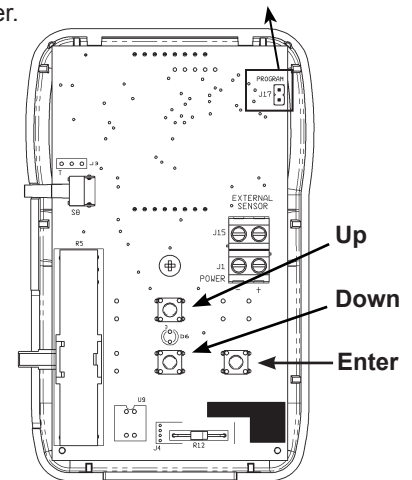

Fig 14: BAPI-Com Setup Buttons (Enter, Up and Down buttons)
2. Use the Up and Down buttons on the back of the circuit board (Fig. 14) to advance to the parameter to adjust. (Moves up or down from page to page or from setting to setting.)
3. Use the "Enter" button on the back of the circuit board (Fig. 14) to select the menu parameter. This selects the currently displayed menu or selects the new parameter and stores it into memory. You can adjust and quit (remove J17) any time during this procedure. Be sure to press the Enter button to store your selection or it will not be saved.